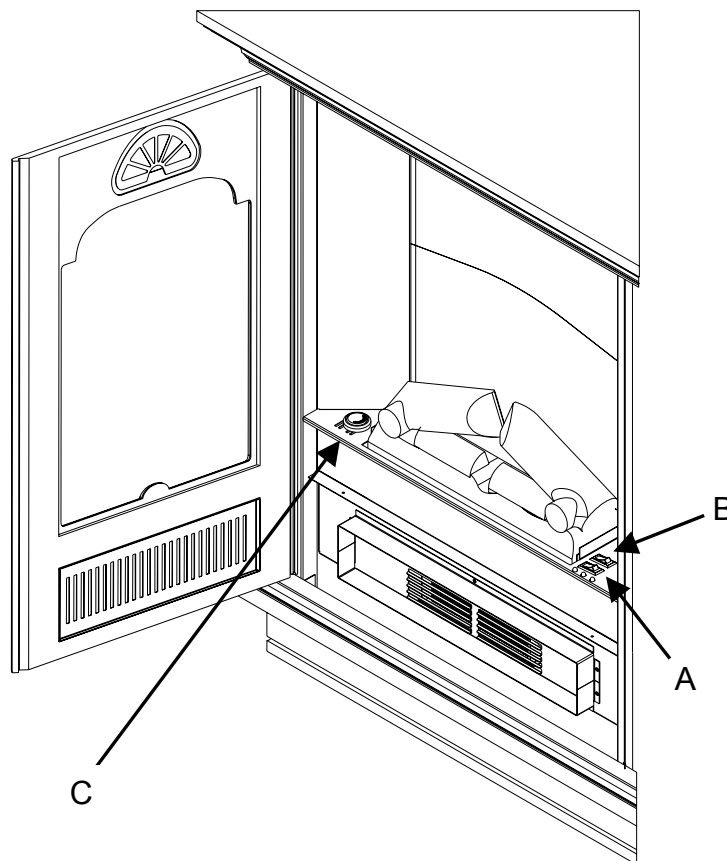

FIGURE 13
The controls are located inside the door panel on the lower side of the corner wall mounted electric fireplace. (FIGURE 13)
2. Locate manual controls. (refer to FIGURE 13)